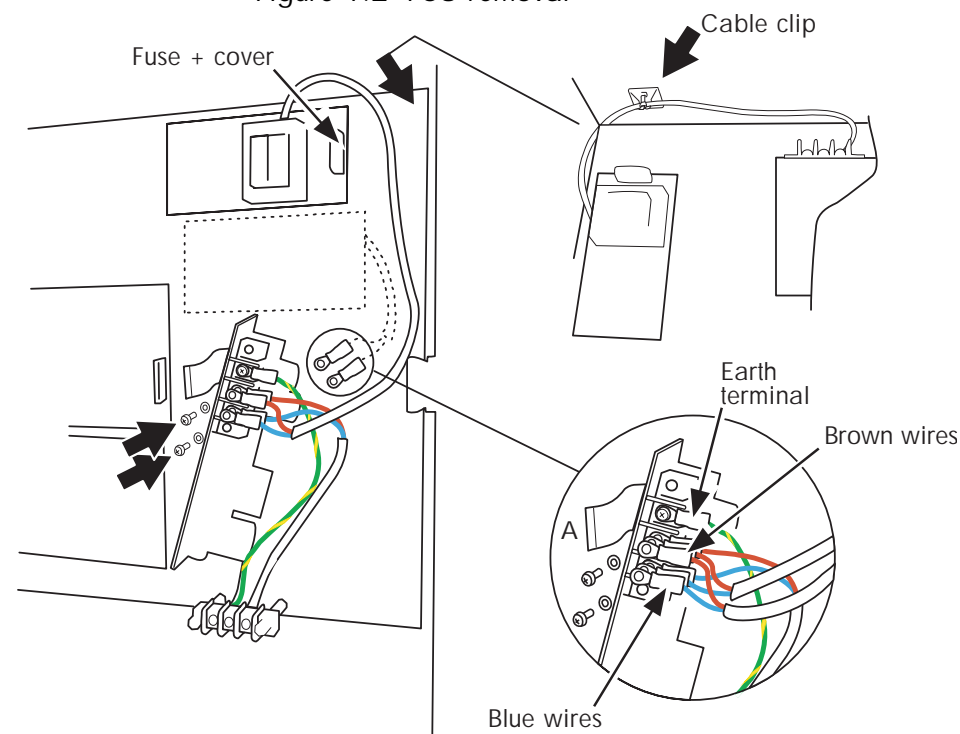

Figure 1.3 Transmitter power supply wiring details
7. Wire the transmitter power supply unit(s) to the power supply connector block as shown in figure 1.3. Ensure that all blue (Neutral) wires go to the terminal farthest from the earth terminal and that all brown wires (Line) go to the terminal next to the earth terminal.